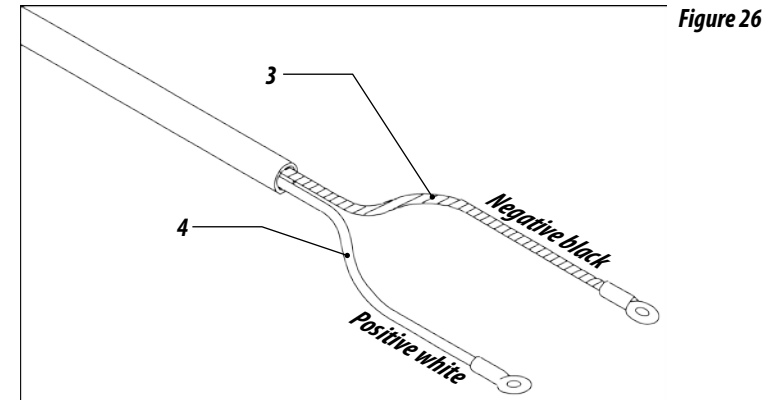

Figure 26
43 - Connect the negative cables - black (3) and positive cables - white (4) to the tractor battery (5). Detail "B", figures 26 et 27.